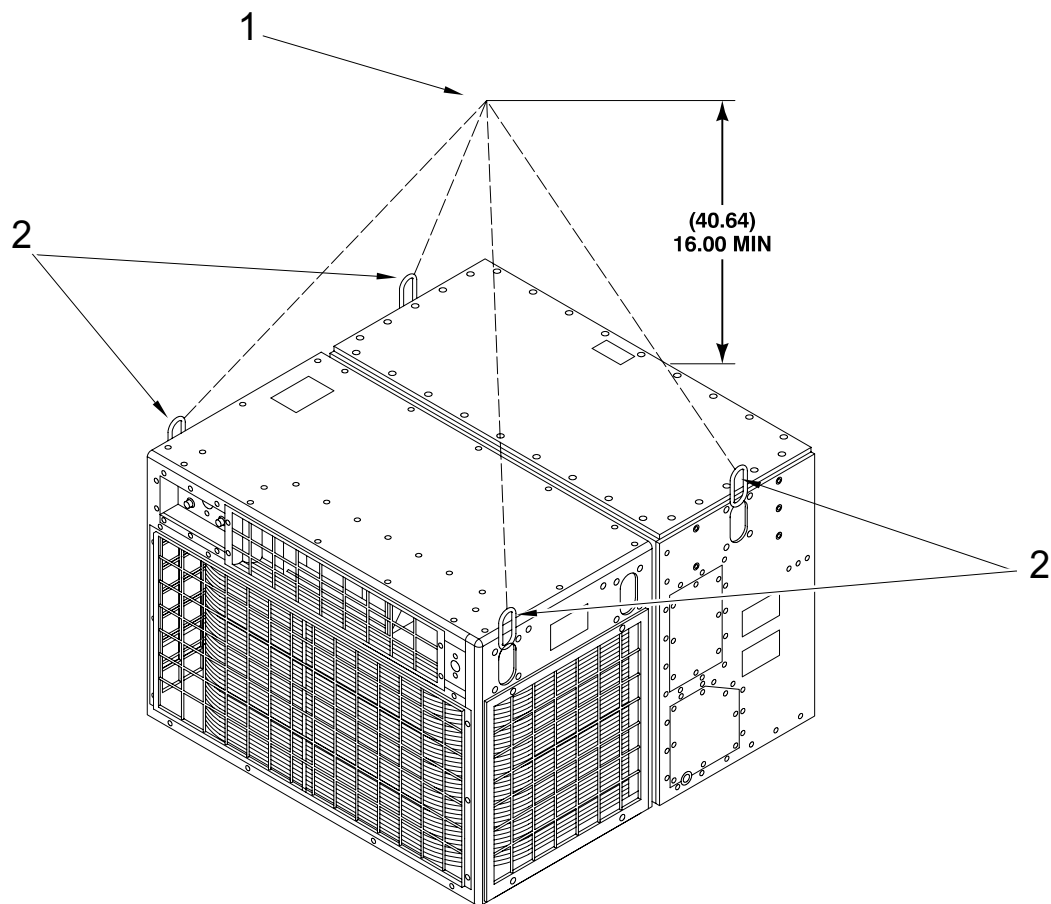

Figure 5. HOISTING INFORMATION.
7. Position lifting device so that lifting hook (1) is centered over Environmental Control Unit. Figure 5
8. Connect sling to the four outside corners (2) Environmental Control Unit lifting rings and the lifting equipment. Figure 5